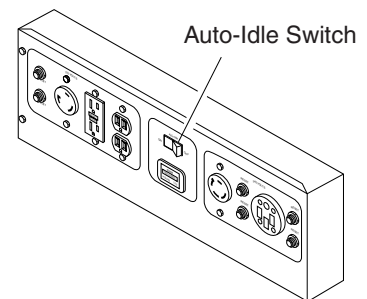

Figure 19 - Control Panel
1. If engine is cold, turn the Auto-Idle switch OFF (see Figure 19).